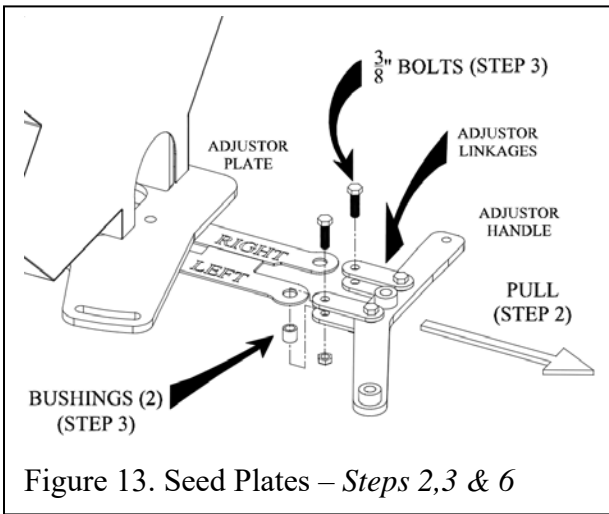

Figure 13. Seed Plates – Steps 2,3 & 6
3. Pull straight out on the adjuster handle and slide the seed plate assembly out of the seed box as shown in Figure 13.
4. Using the 9/16” wrenches, loosen and remove the 3/8” bolts connecting both seed plates to the adjuster linkages as shown in Figure 13.
7. Reassemble the seed plate assembly; be sure the left and right plates are oriented as shown in Figure 13.
9. Reattach the Adjuster Handle to the Adjuster Mount as shown in Figure 13, and fasten bolts.